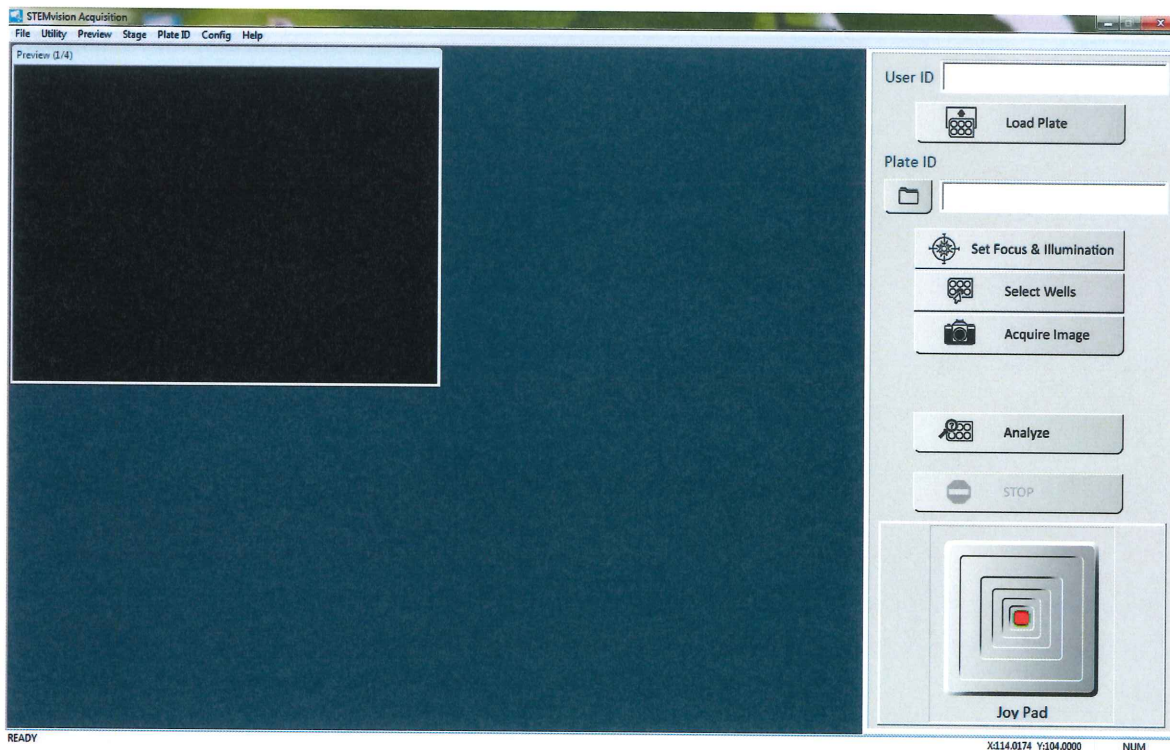

Figure 5: The STEMvision™ Acquisition Application upon Start Up. The main Control Panel menu is on the right and the Preview Window is on the left.
2. Start the STEMvision™ Acquisition application on the computer (double-click the icon on the desktop). The user interface of the STEMvision™ Acquisition application is shown in Figure 5.